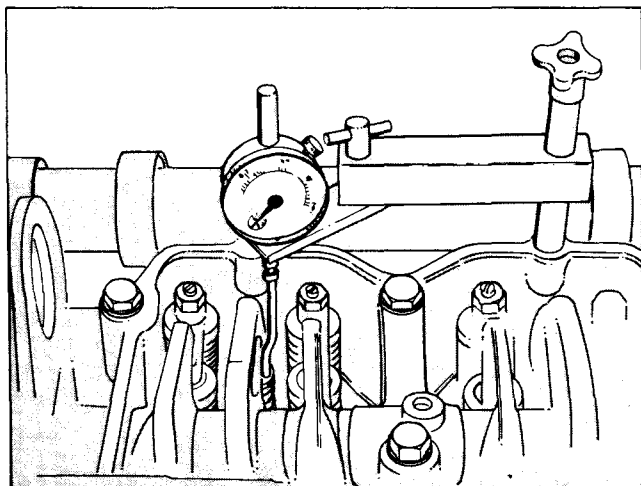

Fig. 2-43, (OM1051L). Extension in contact with plunger
2. Set up ST-1170 Indicator Support with the indicator extension on the injector plunger top at No. 3 cylinder, Fig. 2-43. Make sure the indicator